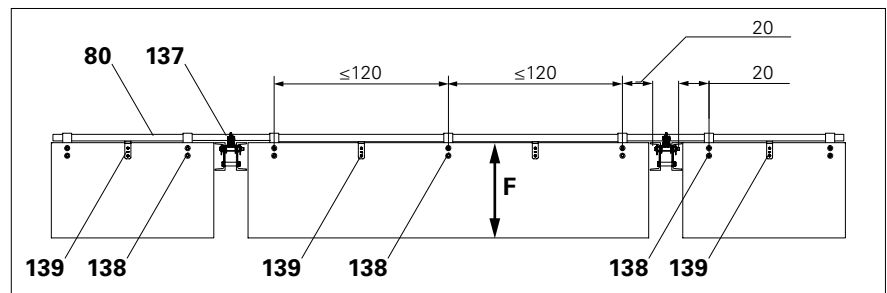

Fig. B2.06a
- Take into account the fibre direction (F) of the surface layer! (Fig. B2.06a)